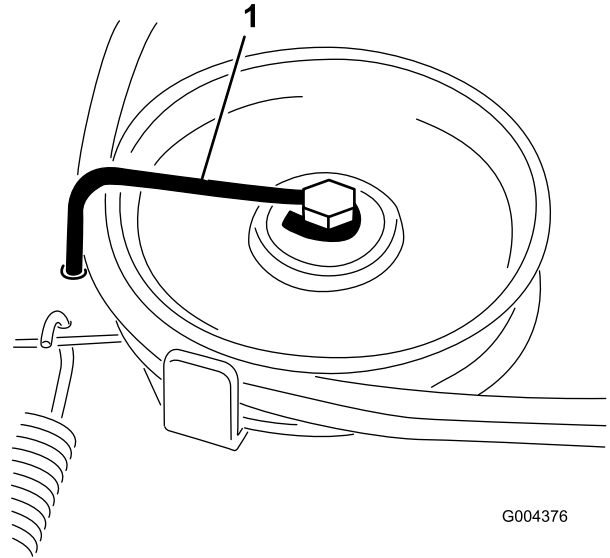

Figure 5
8. Install the new belt keeper onto the pulley (Figure 5).
10. The ring end of the new belt keeper goes between the screw hex head and the washer (Figure 5).
- Note:** The end of the belt keeper sets in the threaded hole vacated by the screw and spacer removed in step 1. Ensure that the new belt is between the pulley and belt keeper (Figure 5).